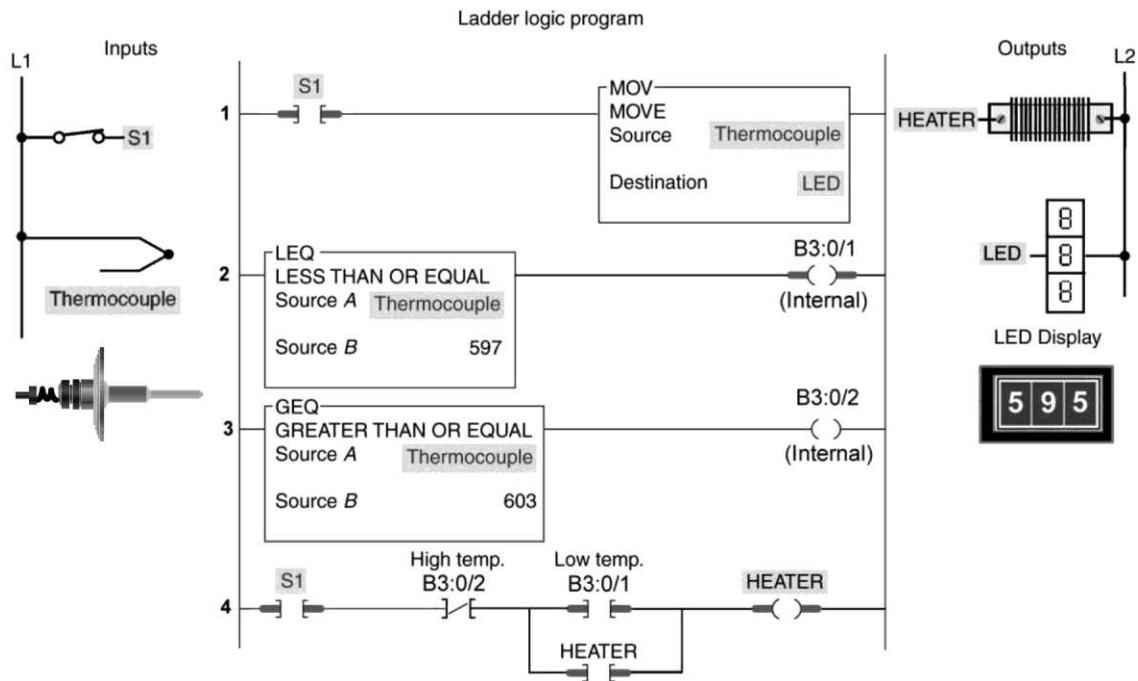

Figure 10-14 Temperature control program for question 21.
- 21-1. For the temperature control program of Figure 10-14, rung No. 1 contains the logic that